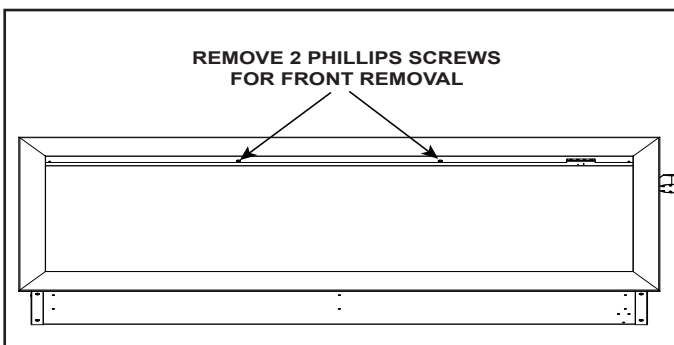

Figure 4.3 Front Removal
To remove the front finishing trim, remove the two (2) Phillips screws located at the top of the trim. See Figure 4.3.